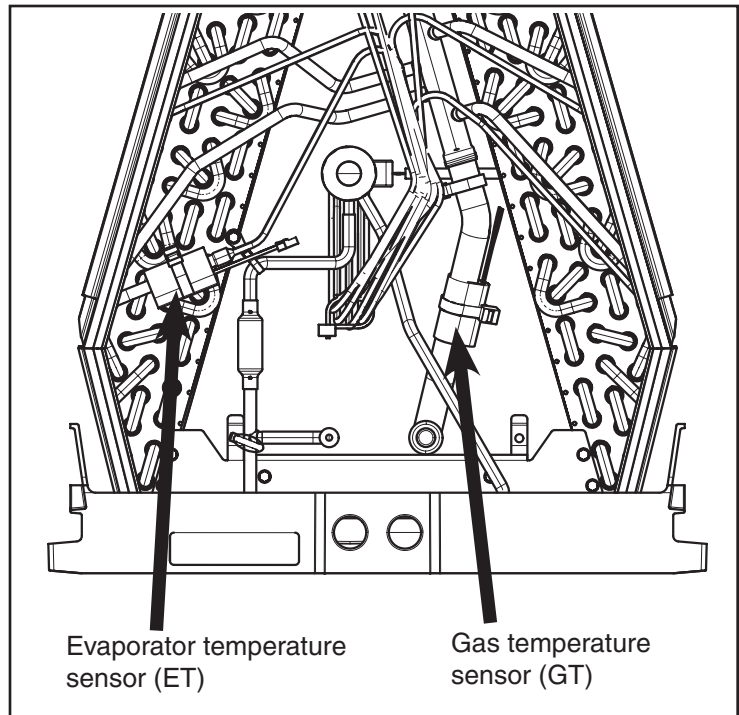

Figure 21 – Attach gas and evaporator temperature sensors
- Clip the gas temperature sensor (GT) to the suction line. Place supplied insulation over the sensor and secure with field supplied tie wrap as shown in Figure 21.
- Clip the evaporator temperature sensor (ET) to the 3/8" part of the distributor tube. There is one distributor tube that steps down from 3/8" to 1/8". Place supplied insulation over the sensor and secure with field supplied tie wrap as shown in Figure 21.